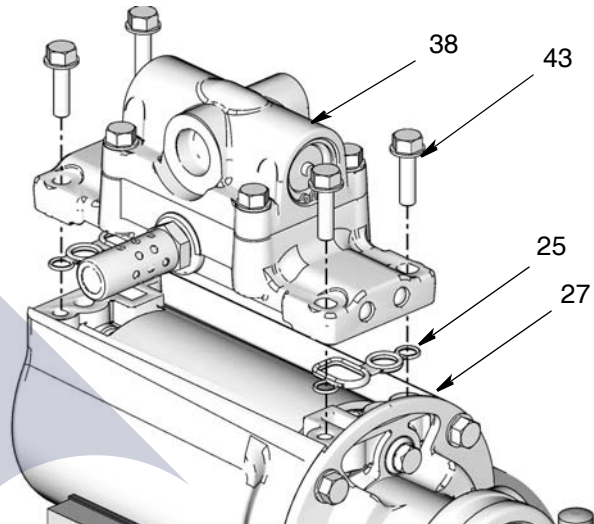

Fig. 4
- Using a 10 mm socket wrench, remove the 4 screws (43) from the air valve (38) and completely remove air valve assembly from air cylinder (27). Also remove the two cover gaskets (25). If you are replacing these parts, discard gaskets. (Fig. 4).